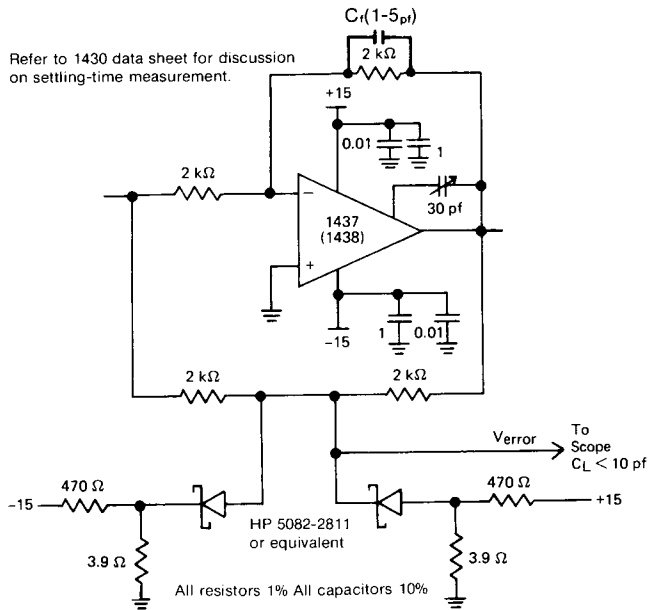

Figure 1. Settling Time Test Circuit
2. Settling time measured in circuit of Figure 1.